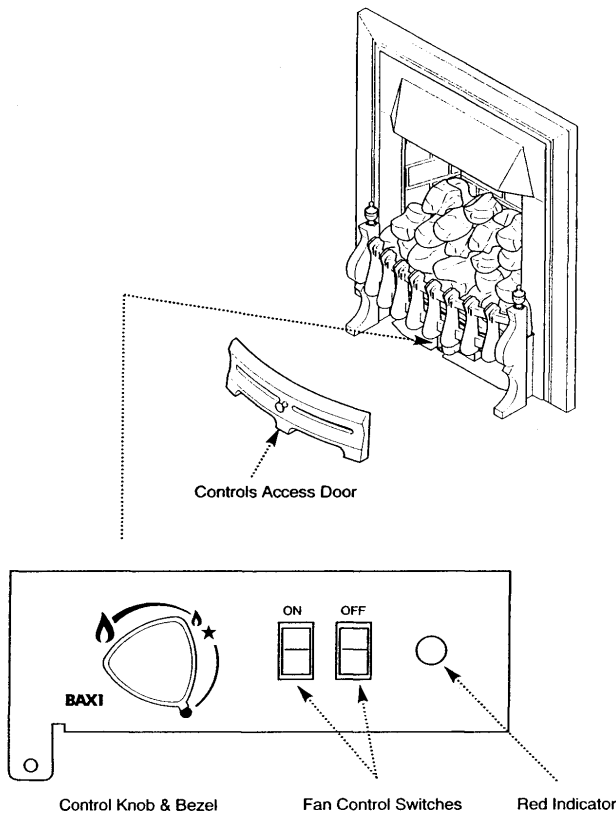

Fig. 1
3. The fire is controlled by a knob which is positioned behind the controls access door on the fender assembly (Fig. 1). The knob has four positions:
4. The fan is controlled by the two rocker switches adjacent to the control knob (Fig. 1).
NOTE: A red indicator (Fig. 1) shows when the electric power is ON but the fan is not running.